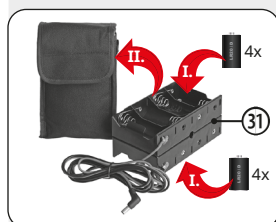

Fig. 16: Inserting the batteries into the battery holder
1. Insert 4 batteries* of type D/LR20 into each side of the battery holder (31) in accordance with the markings (Fig. 16, I).
2. Insert the battery holder (31) into the storage bag (31 b) (Fig. 16, II).